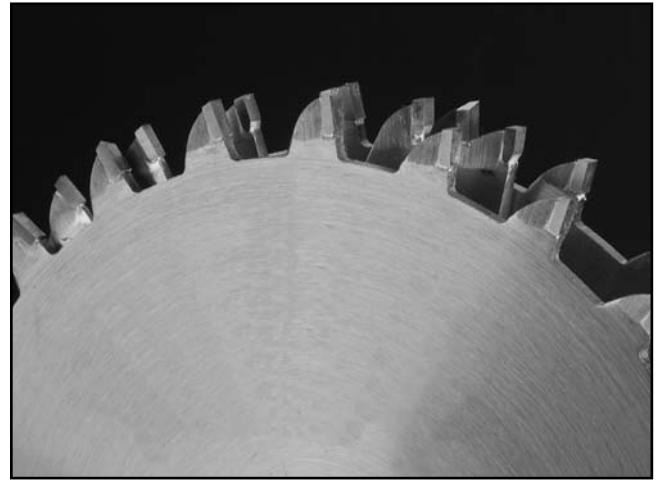

Figure 28. Optional dado blade.
- **Stacked Dado Blade**—These dedicated dado cutting blades consist of a set of up to 8 individual blades. Multiple cutters are "stacked" between two outside blades. The width of the dado is determined by the combination of cutters that are "stacked" together. The dado is cut in a single pass leaving a smooth and square channel in the face of the workpiece as shown on Page 31. Stacked dado blades are the most expensive option but are worth considering if your projects require a lot of visible dado cuts. A typical stacked dado blade is shown in Figure 28.
Commonly used in furniture joinery, a dado is a straight channel cut in the face of the workpiece. Dadoes can be cut using either a dado blade (Figure 28) or a standard saw blade.